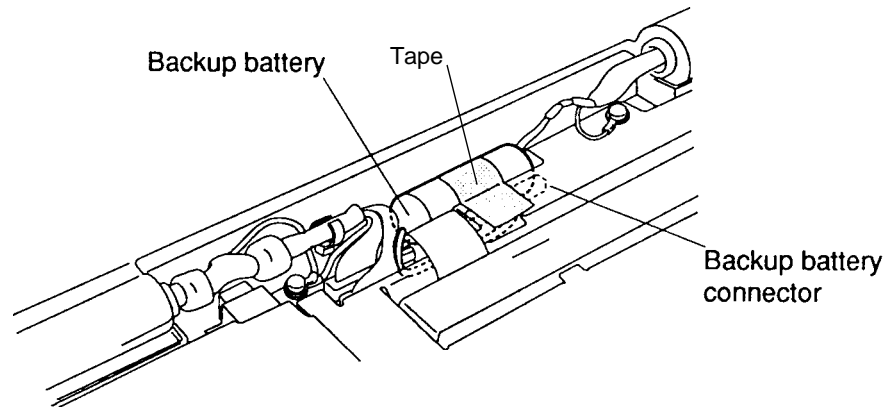

Figure 4-26 Connecting the Backup Battery
To install the computer's backup battery and RTC battery, follow the steps below and refer to Figures 4-26 and 4-27.
1. Connect the backup battery cable to its **connector**. Seat the **backup battery** so that the cable end faces away from the **connector**. Fold the cable flat along the length of the battery to prevent it from being pinched when you replace the protective metal plate. Use **tape** to secure the backup battery in its rounded cavity on the protective metal plate (Figure 4-26).